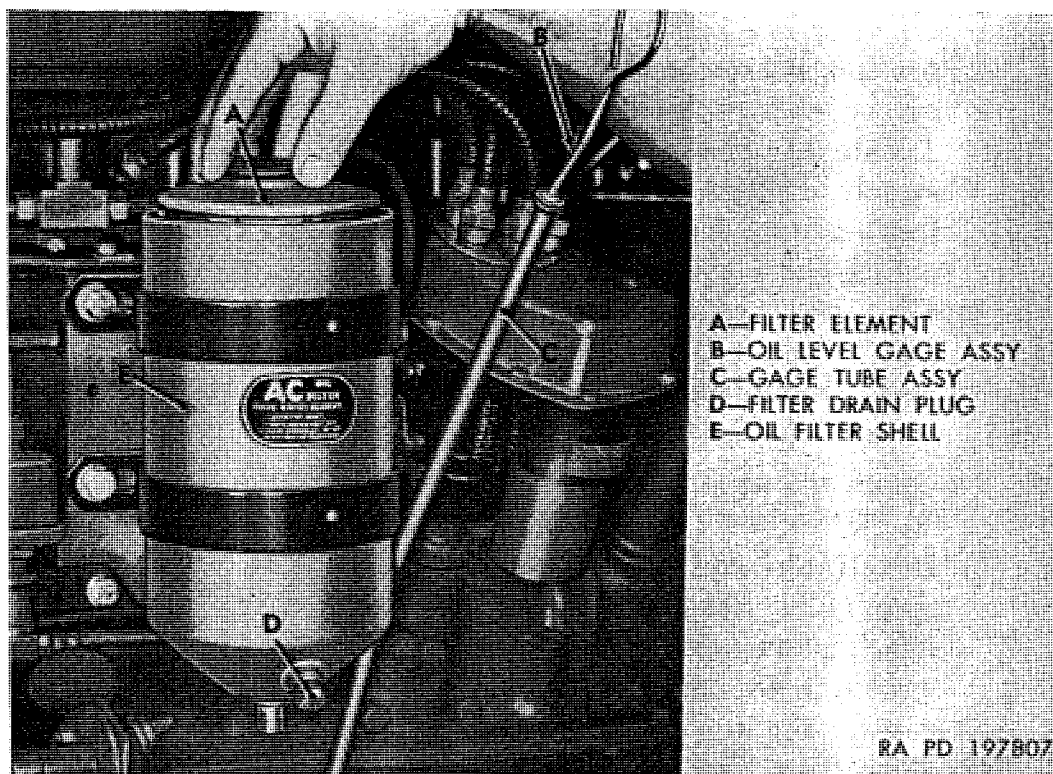

Figure 93. Installing engine oil filter element.
- (1) Set new element in place on stud, which is welded in oil filter's shell (E, fig. 93). Install cover assembly, using new gasket. Tighten locking screw into stud.